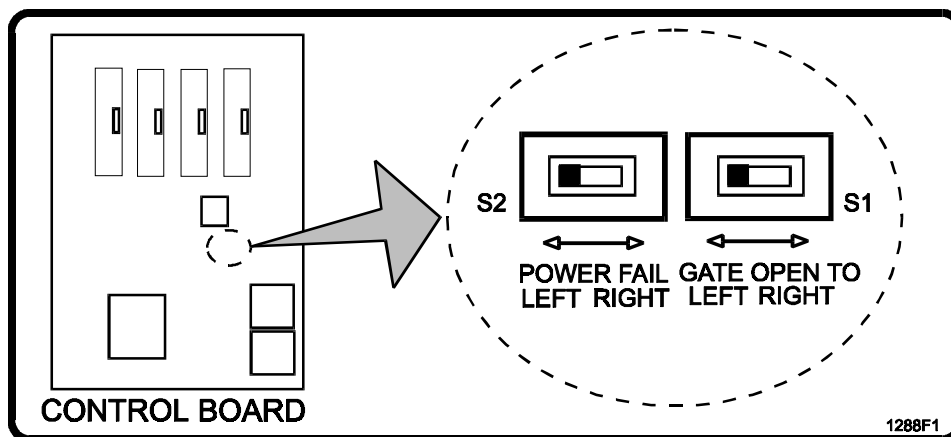

Figure 4. Gate Direction, Power Fail Option Switch Location.
1. Set Power Fail switch S2 to the same position as switch S1 (Figure 4).